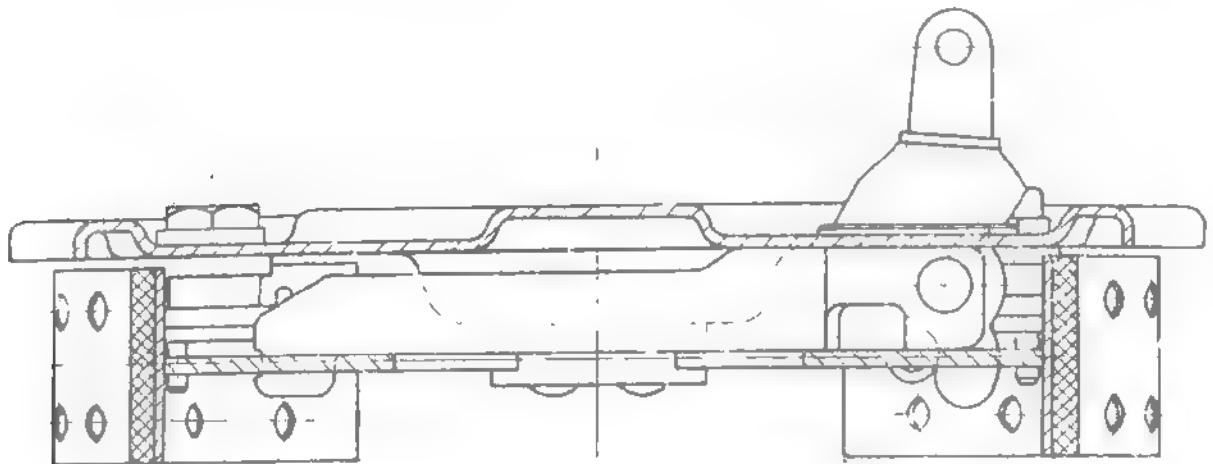

Fig.2.42. REAR WHEEL BRAKE ANCHOR PLATE.
- Using a lever (see fig. 2.42) remove the end of one shoe from brake cylinder slot and then from shoe support.